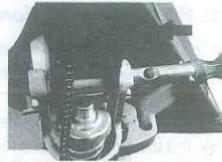

Fig. 6: Axle assembling
- a) Insert the tiller arm(1) into the pump piston, then use a hammer to insert the axle with hole into the hydraulic pump and tiller arm from the right to the left (Fig. 6 ).